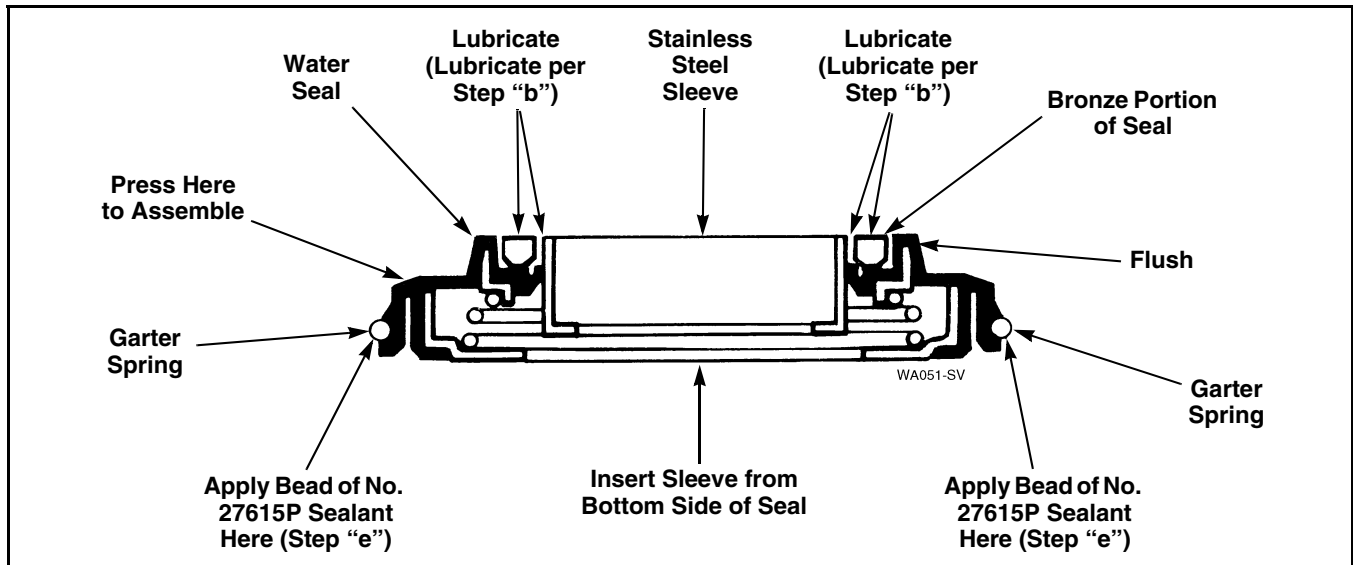

Figure 32
- Apply a light film of nonstaining petroleum jelly (such as Vaseline®) to bronze portion of water seal and to outer surface of stainless steel sleeve. Refer to *Figure 32*.
- Insert stainless steel sleeve into water seal from bottom side of the seal until the sleeve is flush with bronze portion of the seal. Refer to *Figure 32*.
- Carefully apply a small amount of No. 27615P Sealant (supplied with kit) around outer edge of seal and tub (area located just below garter spring). Refer to *Figure 32*.